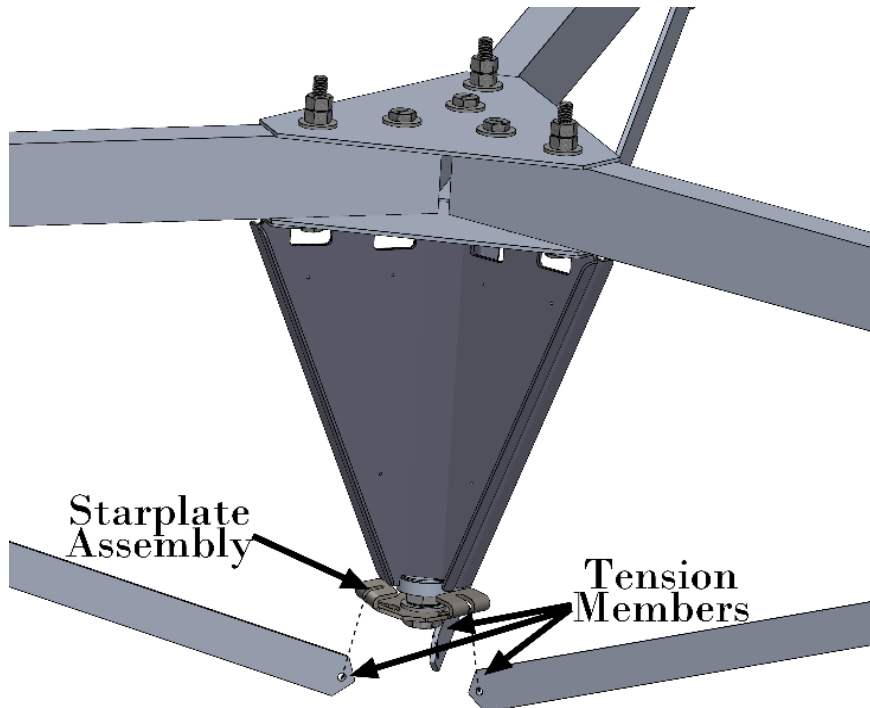
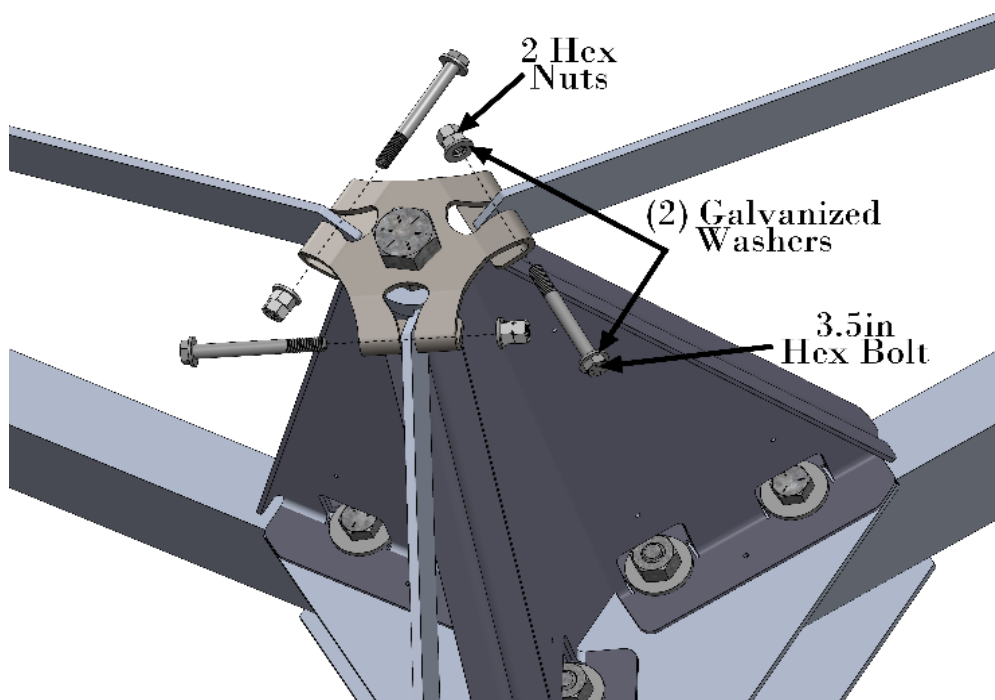

Figure 24 Tension member star plate assembly
Figure 25 Tension Member assembly
3. Secure the (3) tension members to the bottom of the Starplate assembly using (3) 3-1/2" bolts and (6) hex nuts as per Figure 24 and Figure 25 .